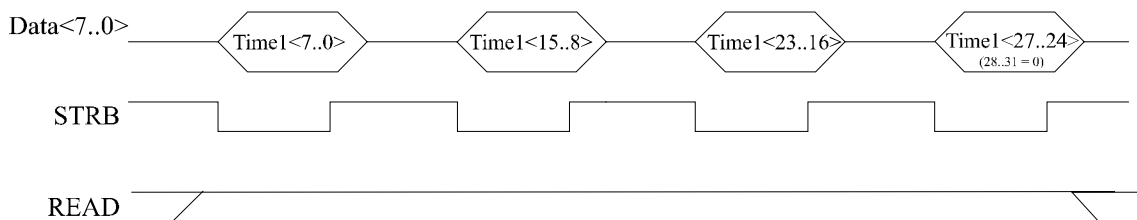

Figure 5.1: Timing diagrams (5V, typ)
Figure 5.1 shows the timing diagrams of a write and a read instruction, as well as some typical instruction sequences to control the TDC501. The following points are to be noticed:
6. The minimum pulse width of 30ns for STRB shown in Figure 5.1, applies to all read and write instructions. The only exception is the initialization instruction, when the auto noise unit is enabled. This special initialization instruction needs a minimum pulse width of 60ns.